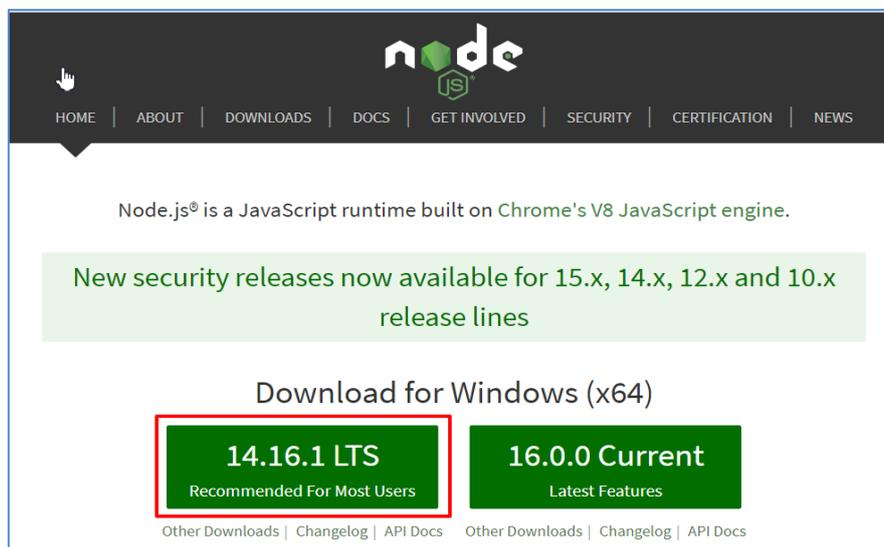

Figure A1
1. Node-RED requires NodeJS. You need to install NodeJS. Go to <https://nodejs.org/en/> and install the latest LTS (Long Term Support) version of NodeJS as in Figure A1.